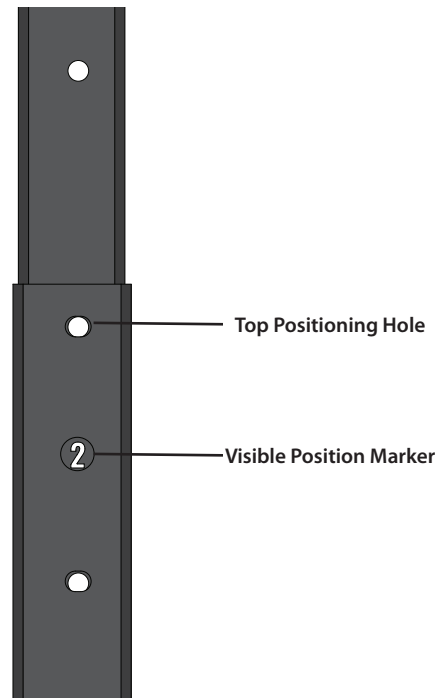
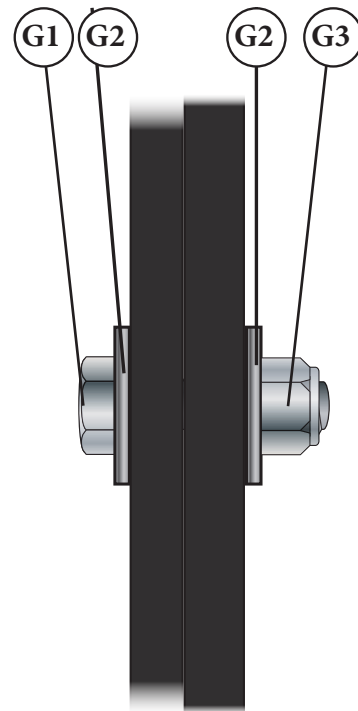

FIG. 2a
FIG. 2b
- 2 Identify the positioning hole on each of the Bottom Legs (B) and then slide a Top Leg (A) into each of the Bottom Legs until the desired position marker (#1 or 2) is shown inside the visible position marker [FIG. 2a].
Secure the two Legs together through the top positioning hole [FIG. 2a] using one Bolt (G1), two Washers (G2), and one Nylock Nut (G3) as shown in [FIG. 2b]. Loosely tighten only.